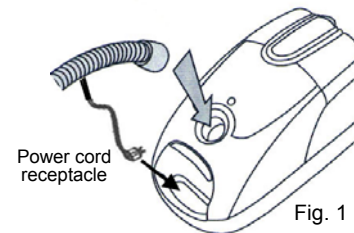

Fig. 1
- Connect the flexible hose into the flexible hose inlet. Push in until you hear a "click", indicating it is in its locked position. (Fig. 1)
- Connect the hose connecting power cord from the flexible hose to the power cord receptacle that is on the unit just underneath the handle. (Fig. 1)